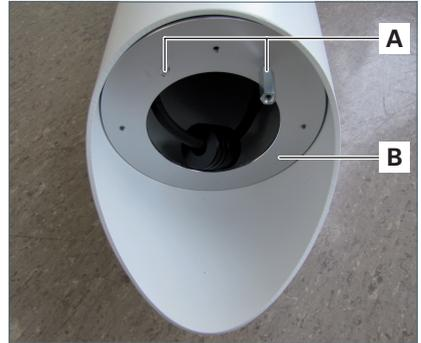

Fig. 1: Unscrew spacer bolts.
2. Unscrew the two spacer bolts **A**, see Fig. 1.
3. Remove the filter ring **B**, see Fig. 1.